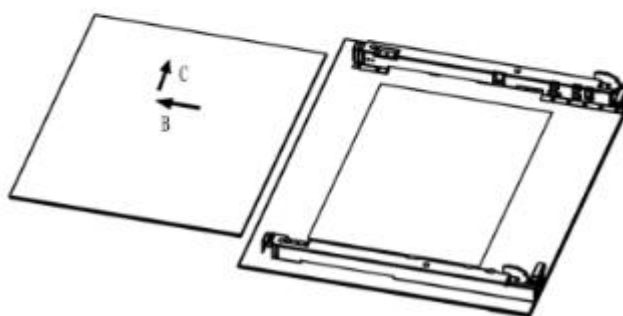

Fig.10
4. Take out middle glass. (Fig.10)